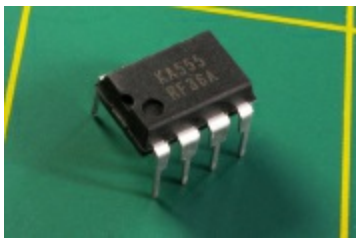

Figure 4-2. An integrated circuit chip in Plastic Dual-Inline Pin package, abbreviated PDIP, or, more often, DIP.
Figure 4-2 shows what is often referred to as an integrated circuit (IC). The circuit is actually etched onto a tiny wafer or "chip" of silicon, embedded in a black plastic body, which is properly referred to as the "package." Tiny wires inside the package link the circuit with the rows of pins on either side. Throughout this book, I will use the word "chip" to refer to the whole object, including its pins, as this is the most common usage.
Just about every chip has a part number printed on it. In Figure 4-2, the part number is KA555. In Figure 4-3, the DIP chip's part number is M74HC00B1, and the surface-mount chip is a 74LVC07AD. You can ignore the second line of numbers and/or letters on each chip, as they are not part of the part number.
- 555 Timer. STMicroelectronics SA555N, Fairchild NE555D, RadioShack TLC555 (part number 276-1723), or similar. Do not get the "CMOS" version of this chip, or any fancy versions such as those of high precision. Buy the cheapest you can find. Quantity: 10. The chip in Figure 4-2 is a 555 timer.